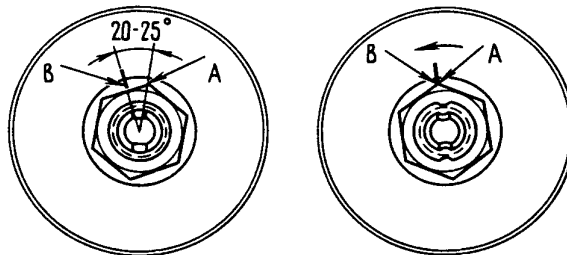

Fig. 4-5. Tightening and Adjusting Front Wheel Hub Bearings:
- make mark B on the washer (Fig. 4-5) then back off the nut through 20 - 25° until the first edge A gets in line with the mark;